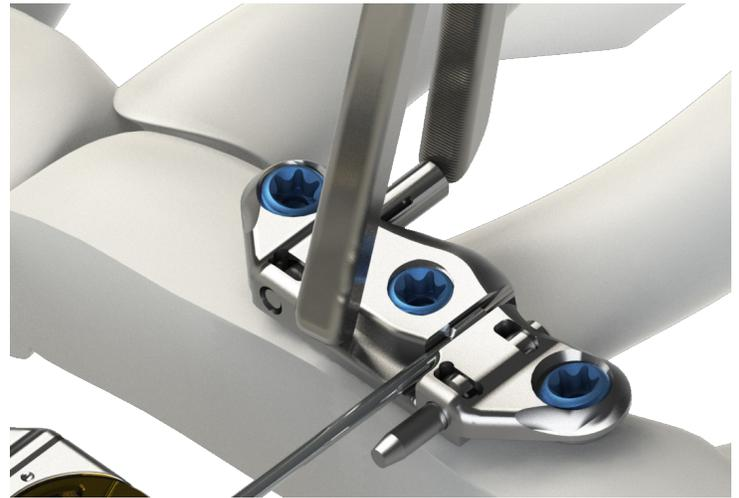

figure 11: Deploy Shear Bars with Shear Bar Pusher
- Deploy all Shear Bars manually by pushing on the end of the Shear Bar with a finger. When deployed manually, a tactile click may be felt when the Shear Bar is fully deployed. If access is difficult due to soft tissue, the Shear Bar Pusher may be used (*figure 11*).